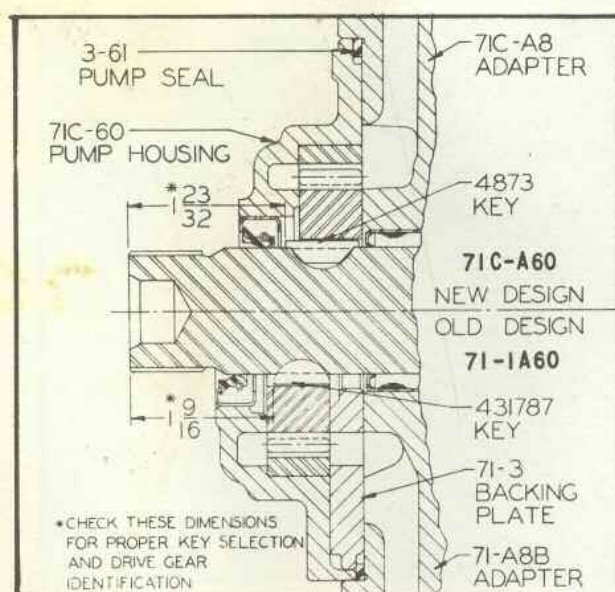
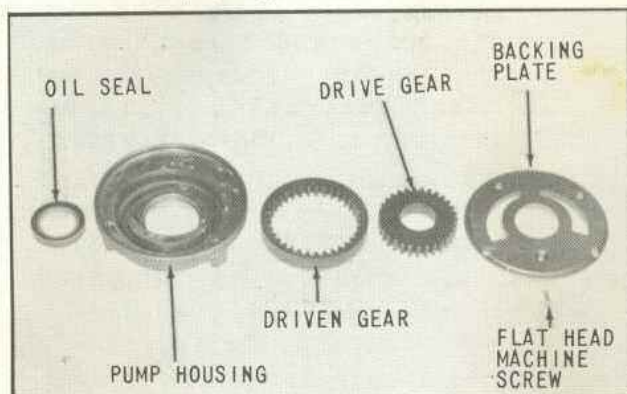

Fig. 90 Illustration of the Installation of the Two Types of Pump Assemblies and Their Related Parts.
Fig. 91 Front Pump Parts with Backing Plate, Assembly 71-1A60
NOTE: Check (Fig. 90) to determine that proper key and shaft are used.
NOTE: The following instructions are for the assembly of the front pump with a backing plate, (Fig. 91). This pump can be used with either of the two different adapter housings, but it should normally be found assembled on the one shown in (Fig. 89). Any of the various versions of the input shafts may be used with this pump, but the proper key must always be used with each shaft. See (Fig. 90) for comparison of the installation of the two pump assemblies and information on the other related parts.
5. Collect the parts shown in (Fig. 91) and check carefully for the following:
NOTE: Check (Fig. 90) to determining that proper key and shaft are used.